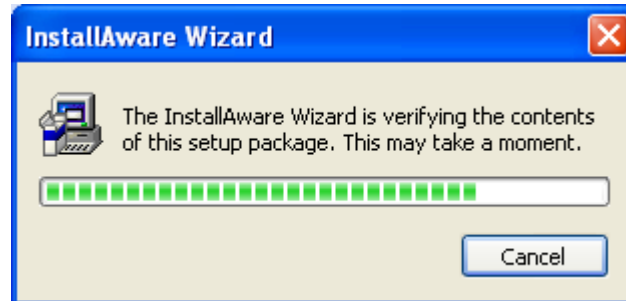
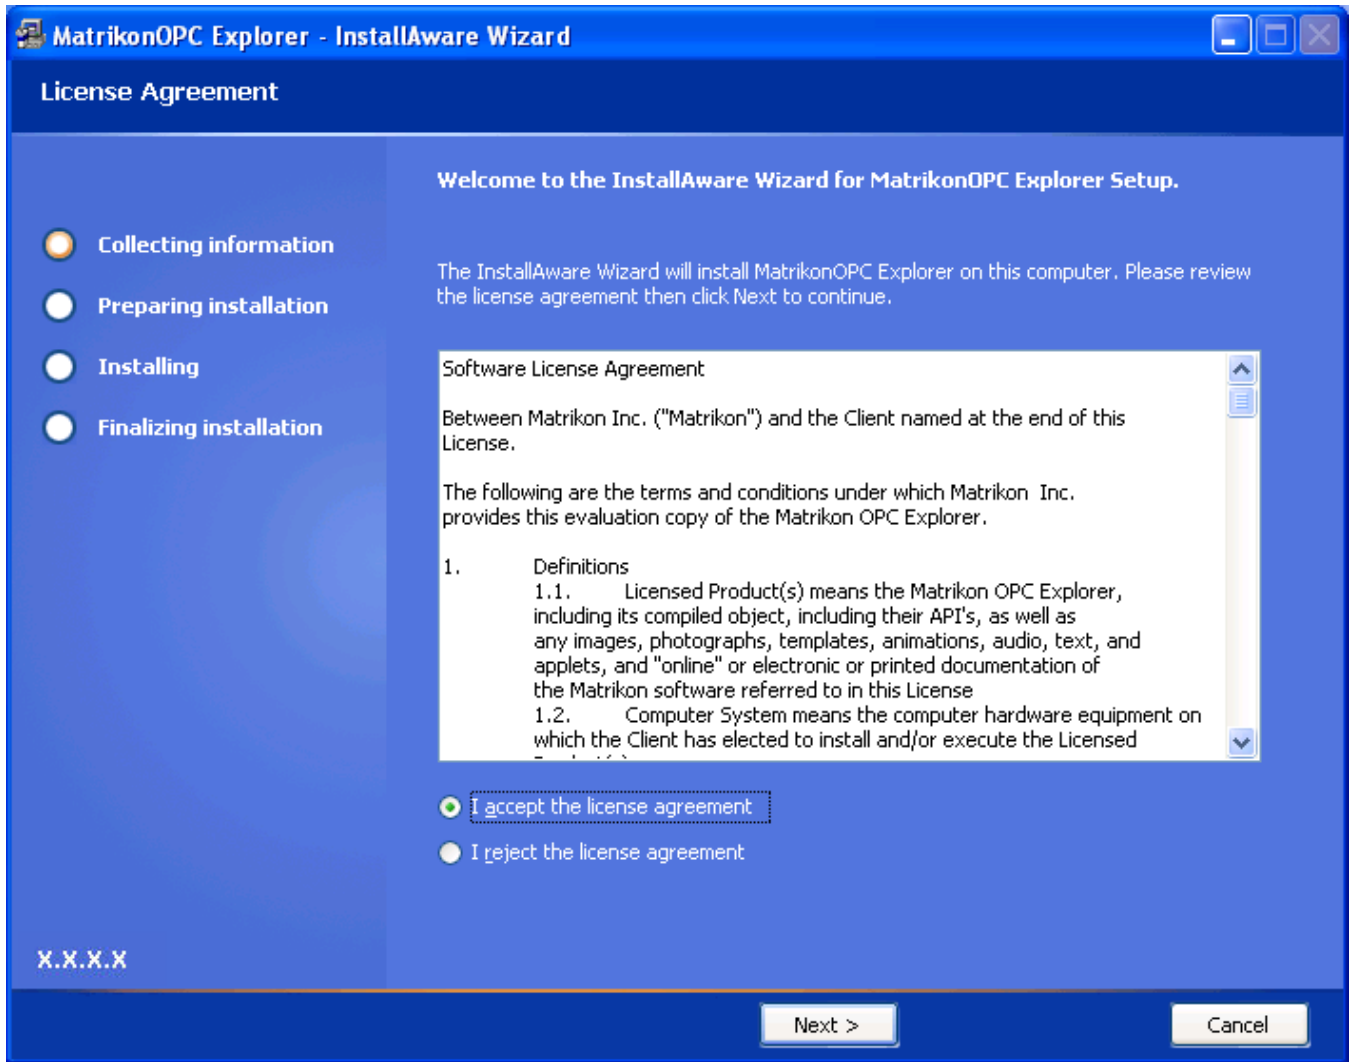

Figure 1 - InstallAware Wizard Verification Window
Figure 2 - License Agreement Screen
The *User's Manual* has been designed as such so that you can click on references in the document to jump to that referenced point without having to scroll through several pages (in some cases). For example, if you were to see the sentence "Refer to Figure 1 for more information", pressing the **CTRL** key and clicking your mouse on the text "Figure 1" will automatically take you to the location of Figure 1 within the document.
2. If the MatrikonOPC **Welcome** screen does not automatically appear, double-click the *MatrikonOPCExplorer.exe* file. The **InstallAware Wizard** verifies its contents (Figure 1) and then the **License Agreement** screen (Figure 2) appears.